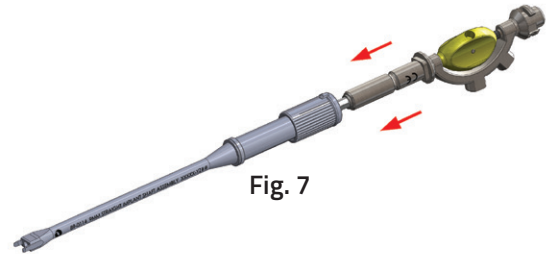

Fig. 7
2. With one hand gripping the Inserter Shaft and holding the ribbed collar distal to the opening, insert the Instrument Body with the gold-colored knob into the Inserter Shaft. **(Fig. 7)**